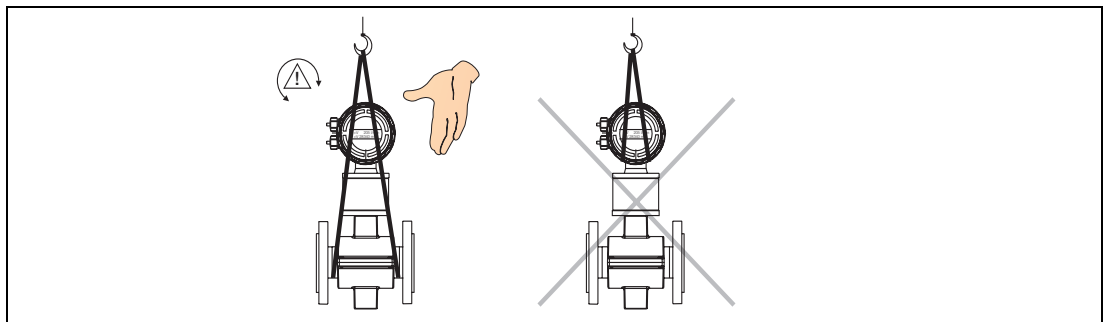

Fig. 4: Transport of Flanged Flowmeters \leq DN 100 [4"]
- when transporting flanged flowmeters \leq DN 100 [4"], use a sling around the exposed meter pipe at both ends (Fig. 4). Chains should be avoided, they could damage the instrument.